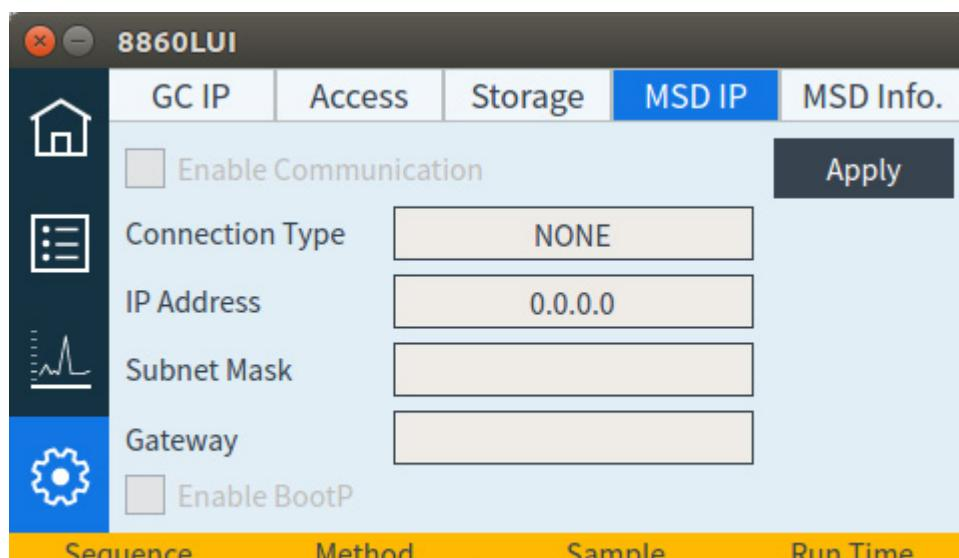

Figure 14. Detector MSD settings page
- From the touchscreen, select the settings page, and then the MSD config tab. See Figure 14.